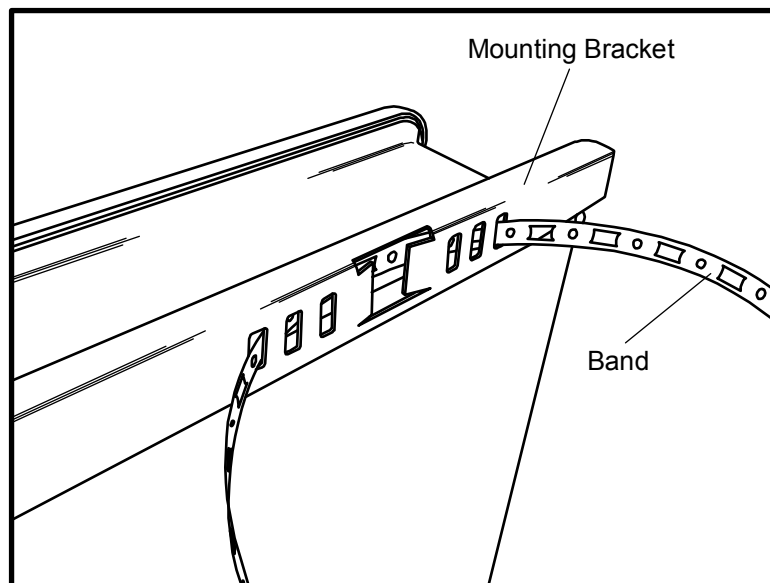

FIGURE 4-13. Inserting the metal band
2. Feed a metal band through the openings in each bracket as shown in FIGURE 4-13. Use the closest set of holes for smaller poles and the farthest set of holes for larger poles.